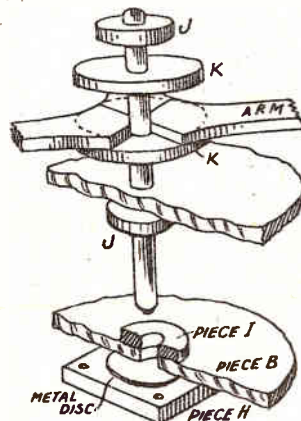

Fig. 1—Cut-away view showing spindle
the spindle itself being upright. To prevent the spindle falling through, and also to provide a suitable pivot, an additional part is fixed beneath. This is the piece (H), and before it is screwed under the central hole, a circular or square disc of thin metal is fitted between as you see in Fig. 1.